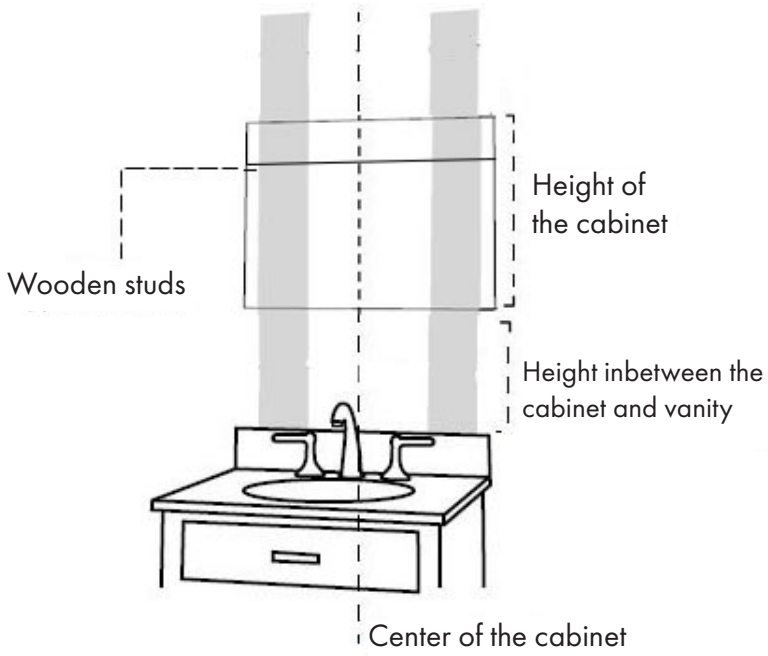

Fig. 1
1. Center the cabinet above the sink at the appropriate height and draw a leveled outline of your cabinet on the wall. (Figure 1)